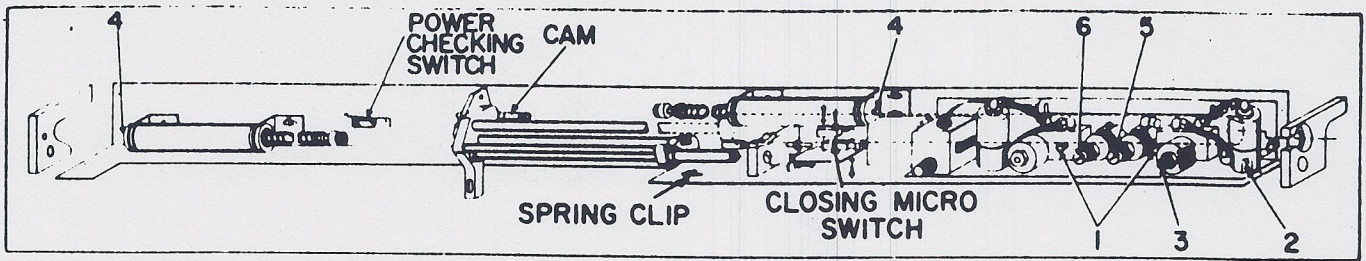

FIGURE 3
5. Remove blanking plugs from operator. See Fig. 3 Ref. 1.
7. Back-out flow metering screw on opening solenoid 3/4 of a turn. See Fig. 3. Ref. 2.
8. Back-out exhaust needle valve one turn. See Fig. 3 Ref. 3.
9. Close down the needle valve on both the opening and closing checking cylinder. Back-out the needle valve 1/4 of a turn for the opening check and one (1) turn for the closing check. See Fig. 3. Ref. 4.
13. Turn on air supply and adjust opening pressure regulator, Fig. 3, Ref. 5, until gauge reads 30PSI and closing pressure regulator, Fig. 3, Ref. 6, until gauge reads 20PSI.
15. Once you have adjusted the speeds for the full cycle, check the speed of the 3/4 recycle. This speed should be only .2 to .3 seconds slower than the full opening speed. If not, opening pressure should be readjusted. Afterwards, a slight readjustment of the flow metering screw (Fig. 3, Ref. 2) may also be needed to compensate for the change in pressure.